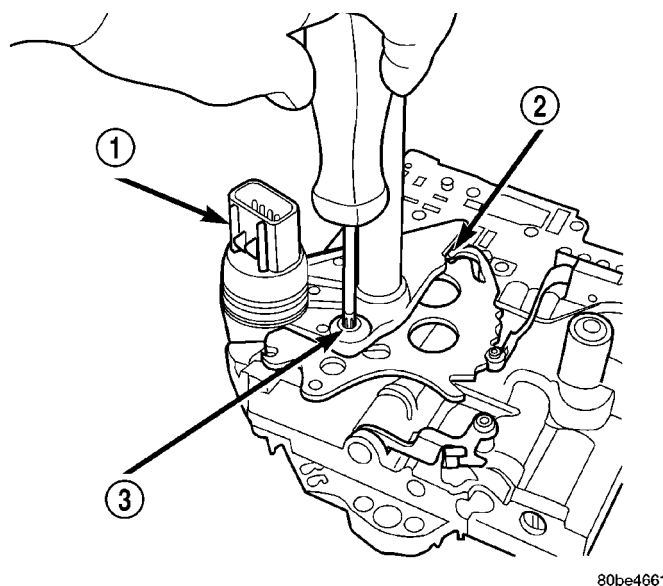

Fig. 333 Remove Transmission Range Sensor
(1) Remove valve body assembly from transaxle. (Refer to 21 - TRANSMISSION/TRANSAXLE/AUTOMATIC - 41TE/VALVE BODY - REMOVAL)
(2) Remove transmission range sensor retaining screw and remove sensor from valve body (Fig. 333).
(1) Install transmission range sensor (TRS) to the valve body and torque retaining screw (Fig. 333) to 5 N·m (45 in. lbs.).
(2) Install valve body to transaxle. (Refer to 21 - TRANSMISSION/TRANSAXLE/AUTOMATIC - 41TE/VALVE BODY - INSTALLATION)